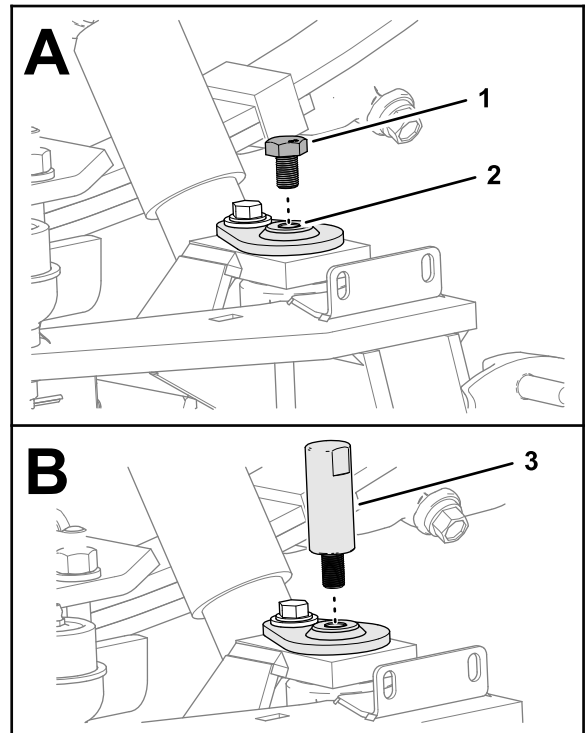

Figure 6
1. Remove the capscrew from the end of the kingpin (Figure 6).
2. Thread the alignment tool into the top of the king pin (Figure 6).